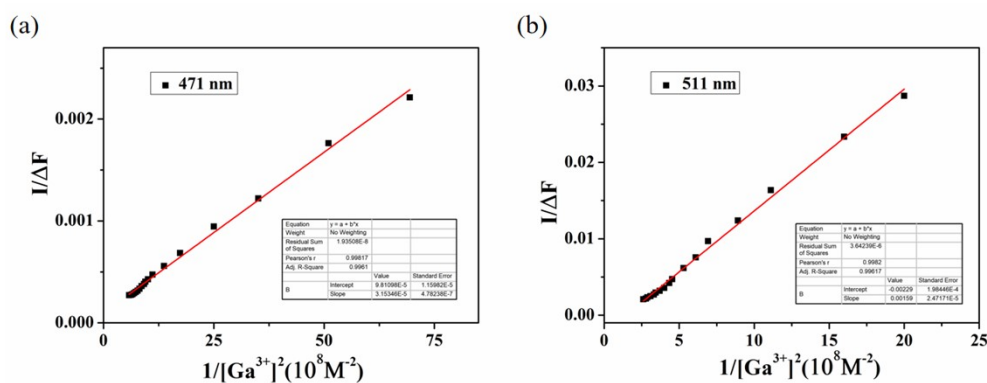

Fig. S11. Benesi-Hildebrand plot of **L1** (a) and **L2** (b), assuming 1:2 stoichiometry for association between sensors and Ga^{3+} .
11. **Figure S11.** Benesi-Hildebrand plot of **L1** and **L2**, assuming 1:2 stoichiometry for association between sensors and Ga^{3+} .